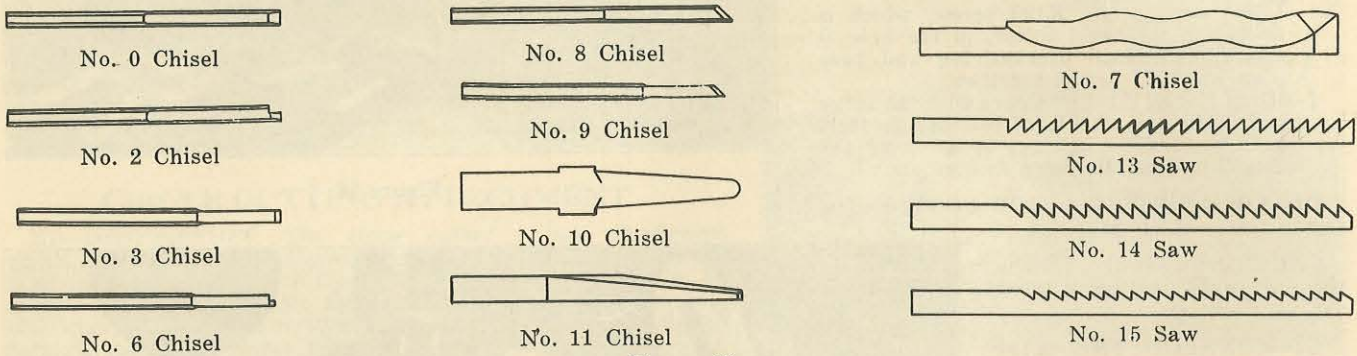

Figure 19
**B2—SAW BLADES.** The No. 13 Saw (see figure 19) is to be used. The shank should be inserted far enough into the chisel block so that the upper end is flush with the top of the block. The teeth should face toward the plunger as shown in figure 10.
No. 14 Saw (see figure 19) for general work.
No. 15 Saw (see figure 19) for metals, asbestos, bakelite, etc.
The No. 15 saws (see figure 19) for metal are made of special steel. In making them hard to retain their sharpness, they become somewhat brittle and should be used with greater care than other saws.